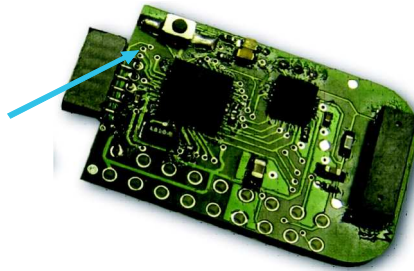

Figure 17. TMS37157 Target Board
4. Press the push button on the target board (see Figure 17).